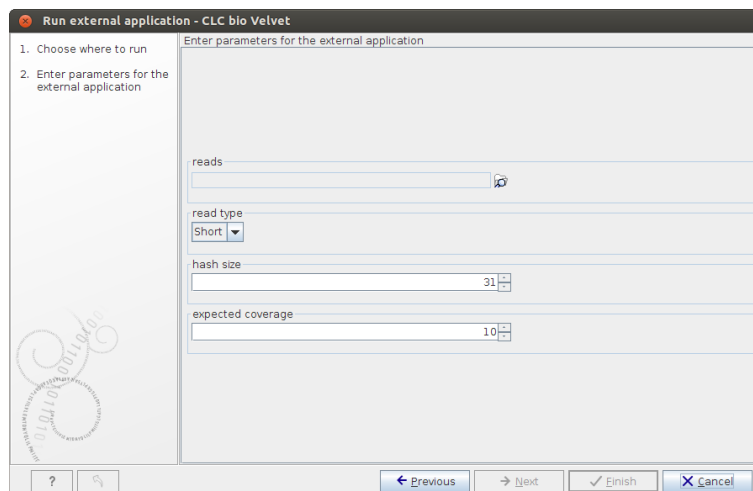

Figure 12.12: Configuring Velvet parameters from a Workbench.
- Select (📁) the reads to assemble and configure the Velvet parameters, as shown in figure 12.12.